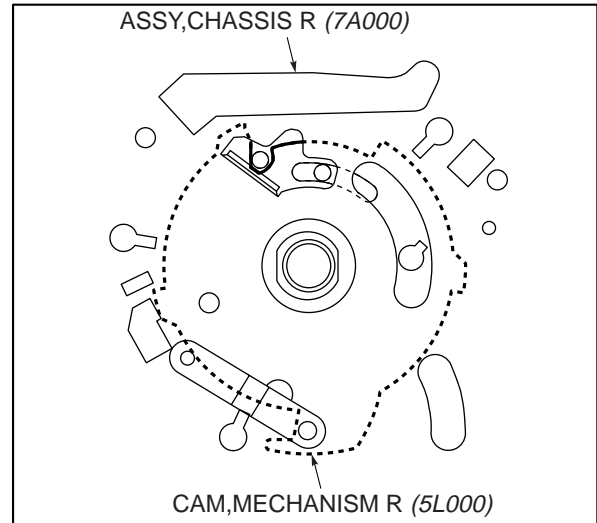

Fig. 3-14-4
3. Install the assembly (“COMPL,GUIDE,PAPER (5I000)”, “CAM,MECHANISM L (5K000)” and “COMPL,PIPE DRUM RUBBER (4A000)”) completed in step 2 to the “ASSY,CHASSIS L (7C000)” as shown in Fig. F of Fig. 3-14-4.
5. Install the “ASSY,CHASSIS R (7A000)” as shown in Fig. G of Fig. 3-14-4.